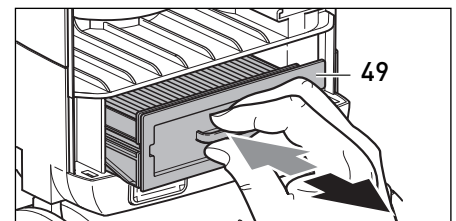
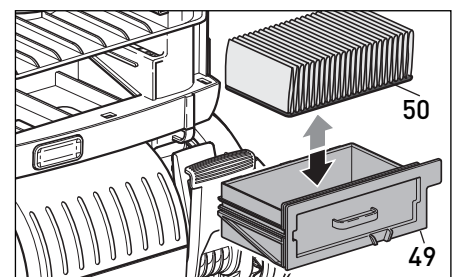

Figure 19
Figure 20
Changing the Exhaust Filter - Figures 19 & 20
After 20 bags have been used, change the exhaust filter. To change the exhaust filter, remove the bag housing cover (24) by pressing the cover release button (19) and lifting the cover up and out. Grasp the handle on the orange filter holder (49 - figure 19) and pull it out. Pull the filter out of the holder. Insert the new filter rubber-gasket-side-down (50 - figure 20) into the holder and reinsert the holder. Replace the bag housing cover and snap it in place.